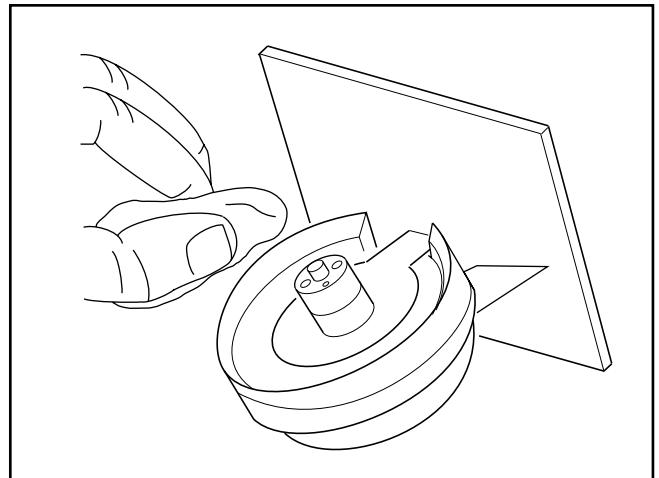

Fig. M3
1. Before reinstalling a new unit, clean the D.D. Cylinder Shaft and the surface that engages with the Upper Cylinder with a soft cloth dampened with Ethanol in Fig. M3.